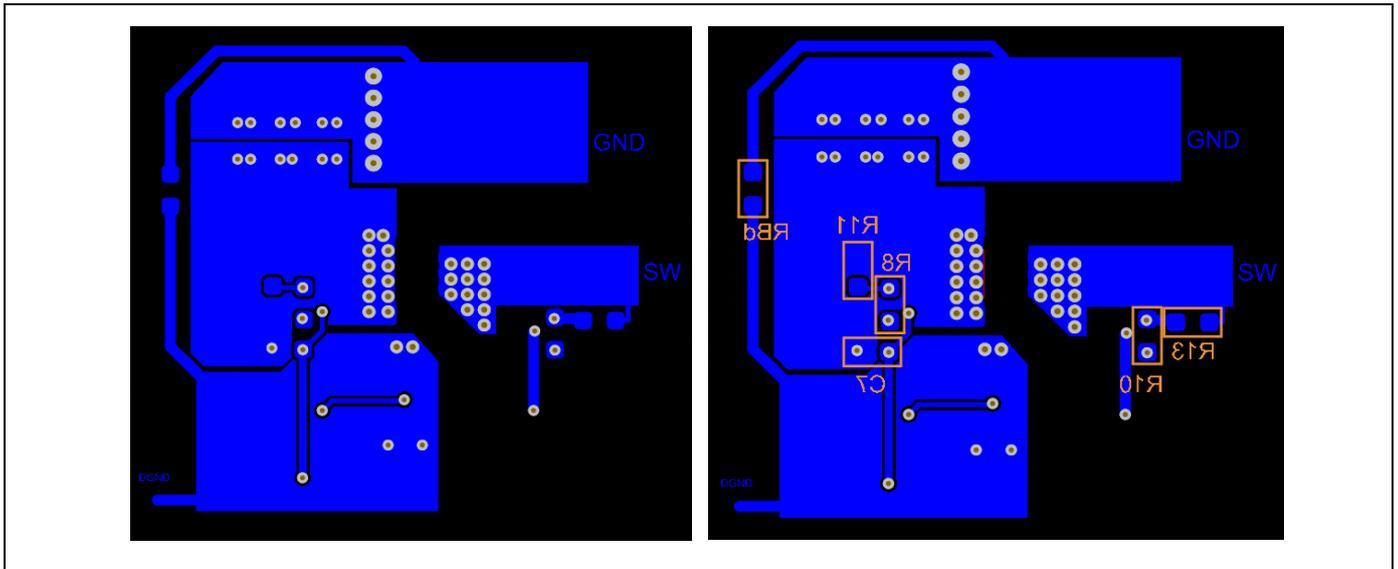

**Figure 13** CoolGaN™ IPS circuitry with external passive components
**Figure 12** shows the suggested arrangement of the power stage and the external components on the PCB based on the schematic shown in the **Figure 13**.